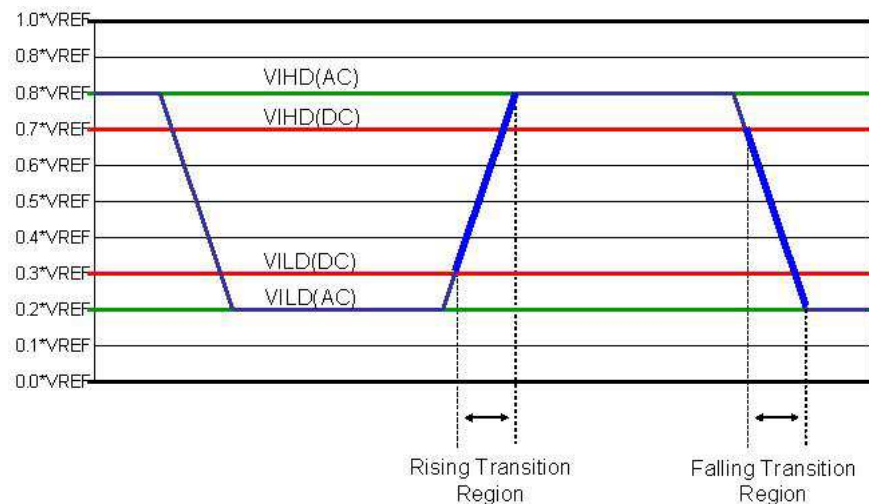

Figure 1. Low Speed (LS) I/O Input Thresholds
- (1) VILD(AC) min applies to undershoot.
- (2) VIHD(AC) max applies to overshoot.
- (3) Signal group 1 output slew rate for rising edge is measured between VILD(DC) to VIHD(AC).
- (4) Signal group 1 output slew rate for falling edge is measured between VIHD(DC) to VILD(AC).
- (5) Signal group 1: See Figure 1.
- (6) Signal groups 2 and 3 output slew rate for rising edge is measured between VILD(AC) to VIHD(AC).